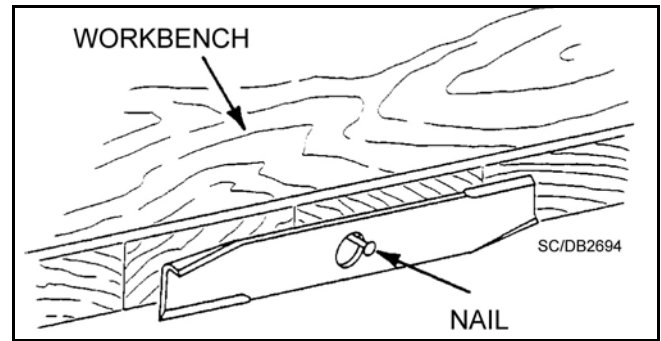

Figure 18. Blade Balancing
4. Sharpen both cutting edges equally to keep blade balanced. Balance blade using the method shown in Figure 18.